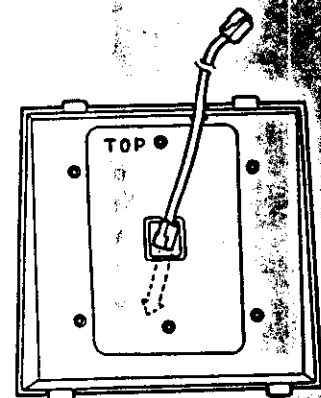

Fig. 22
- 5 Route the other end of the adapter cord through the opening provided at the top of the wall bracket and mount the telephone on the wall bracket following STEP 4 of Case 1 (Fig.22).
- 3 Route the adapter cord through the opening of the wall bracket and plug into the modular jack assembly (Fig.22).